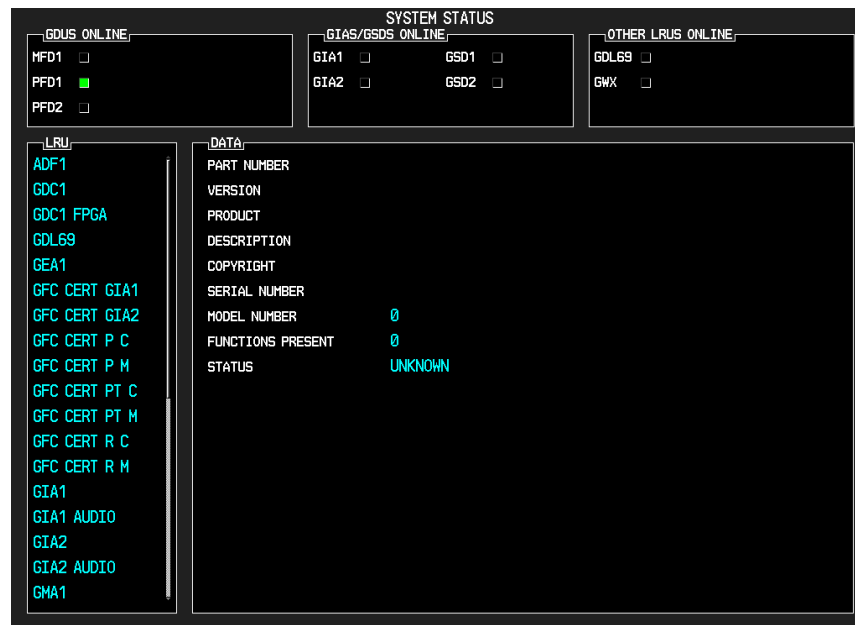

Figure 4-1. System Status Page (Configuration Mode)
2. Repeat step 1 for the MFD and PFD2 (if installed). The System Status Page (Figure 4-1) is displayed on the MFD and the PFD.